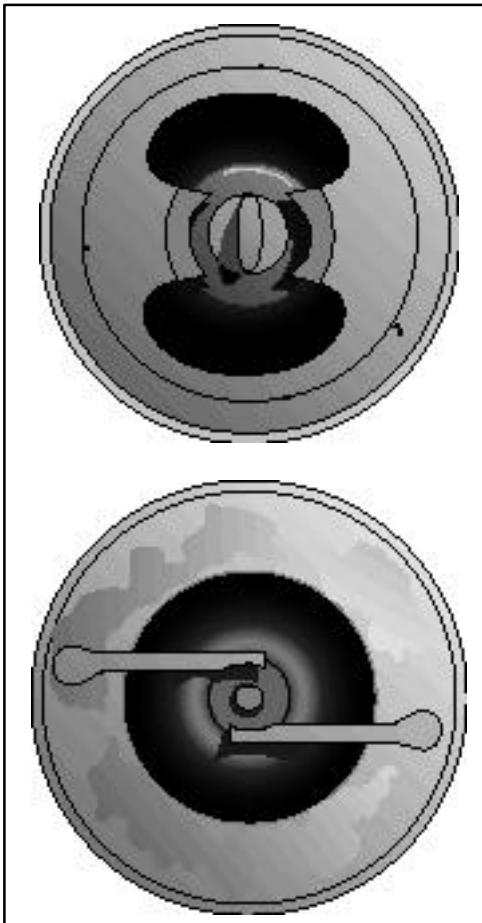

FIGURE 8-6d. Typical worn out spark plug.
(2) Corrosive gases formed by combustion and the high voltage spark have eroded the electrodes. Spark plugs in this condition require more voltage to fire—often more than the ignition system can produce. (See figure 8-6d.)